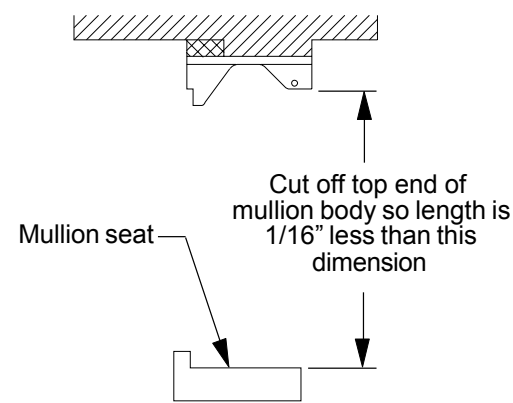

Figure 4
3. Cut mullion body to length as shown in Figure 4.